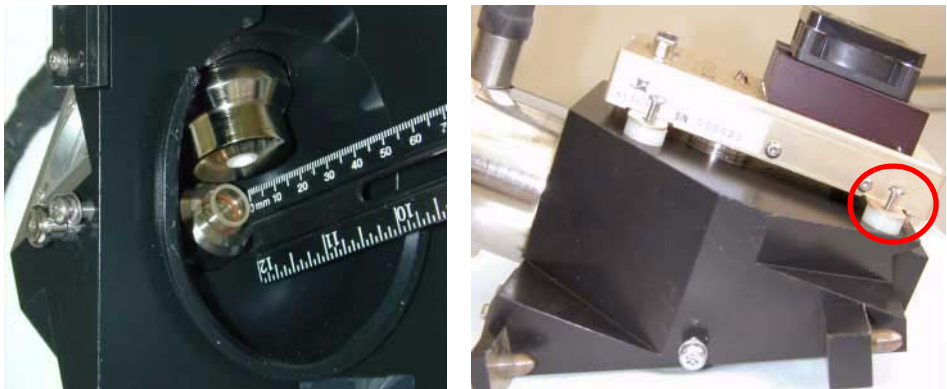

Figure 42 UV lamp should extend 6 mm (left). Lamp drive module should lie flat (right). Make sure switch is located on contact pin (circled above).
- b** Install the new UV lamp into the lamp holder. Use a slight rocking motion to push the lamp through the O-ring seal. Push the lamp into the lamp holder until it extends approximately 6 mm into the spray chamber. See Figure 42.